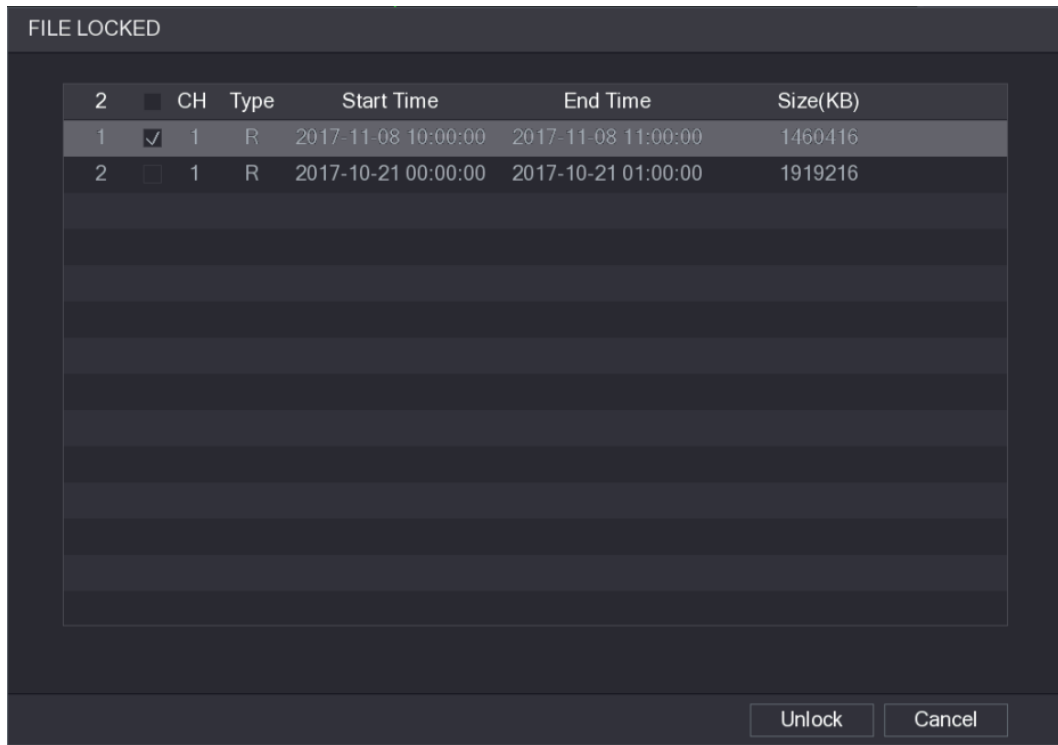

Figure 5-106
- To unlock the recorded video, in the **FILE LOCKED** interface, select the video, and then click **Unlock**. See Figure 5-106.